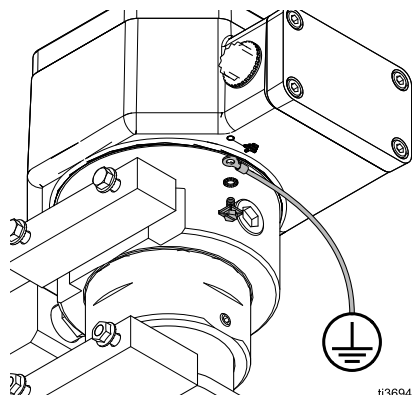

FIG. 7: External Ground Wire
2. For Hazardous Location Heaters only: Connect a ground view as shown in FIG. 7. Loosen the ground screw and attach a ground wire (Y, Graco part 222011, not supplied). Tighten the ground screw securely. Connect the other end of the ground wire to a true earth ground.